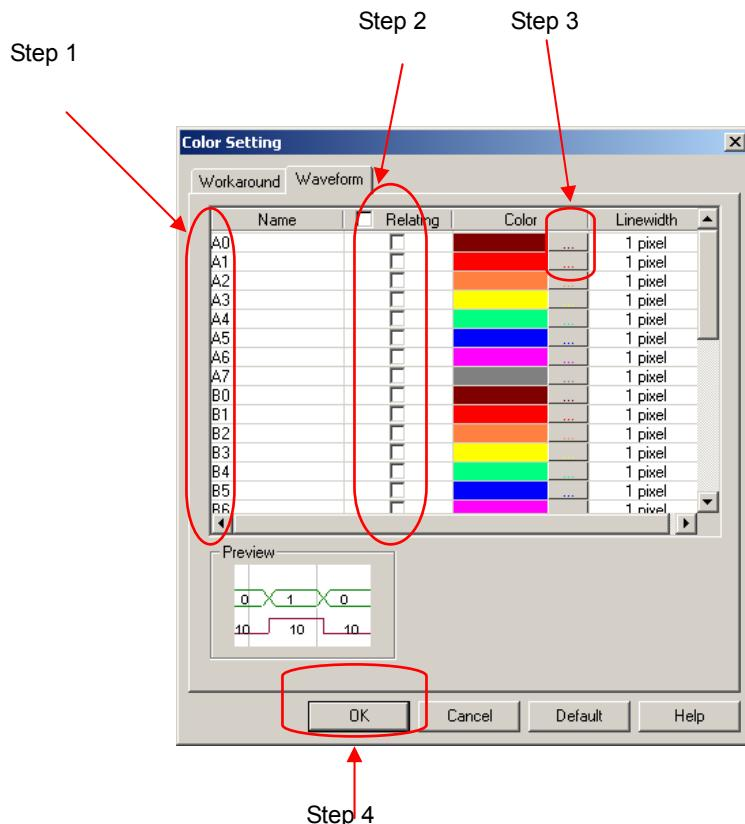

Fig 3-157: Stepwise Illustration of Changing **Waveform Colors**
Foreground color refers to the color of the output signal lines in the Waveform Display Area. Fig3-157 presents how to change colors of a signal or some signals. Repeat the following procedures if users need to change colors of many signals.
Step 3: Choose a color by following the method shown in Fig 3-157.